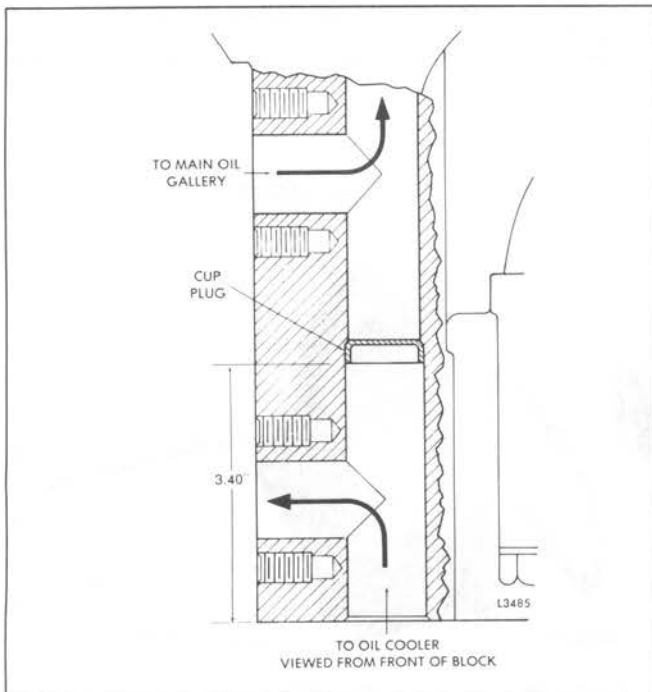

Fig. 6 – Location of Cylinder Block Oil Gallery Cup Plug
9. Inspect the vertical oil passage in the cylinder block for the presence of the cup plug which directs the flow of oil through the oil cooler (Fig. 6). Absence of this plug will result in high oil temperature or low oil pressure (resulting from high oil temperature).